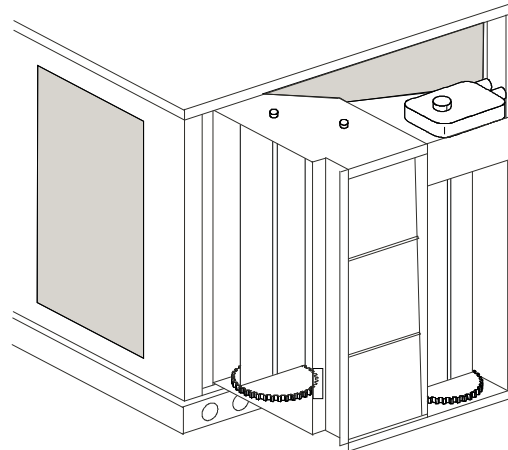

Fig. 15 - Horizontal EconoMi\$er X Positioned for Installation in Unit
5. Set the EconoMi\$er X upright (See Fig. 15).